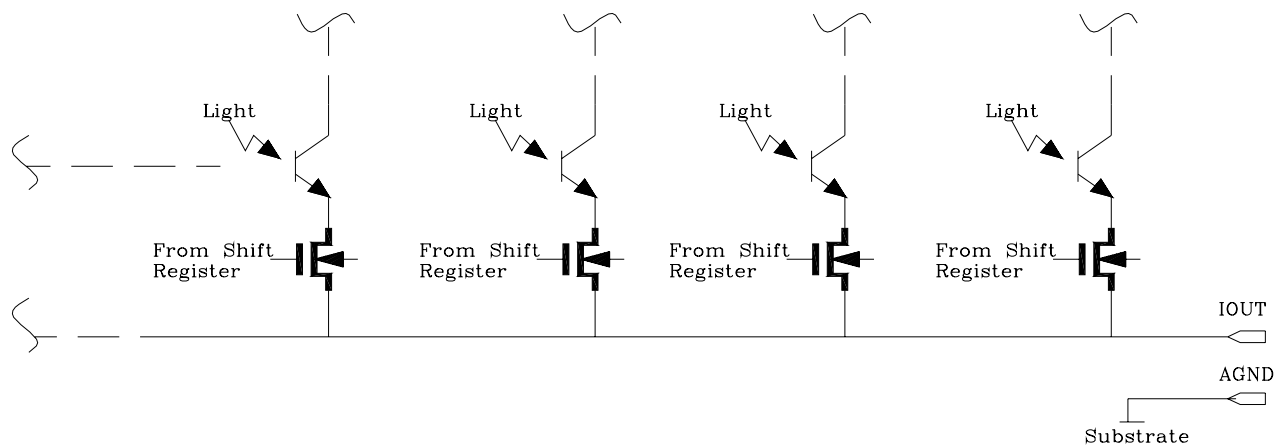
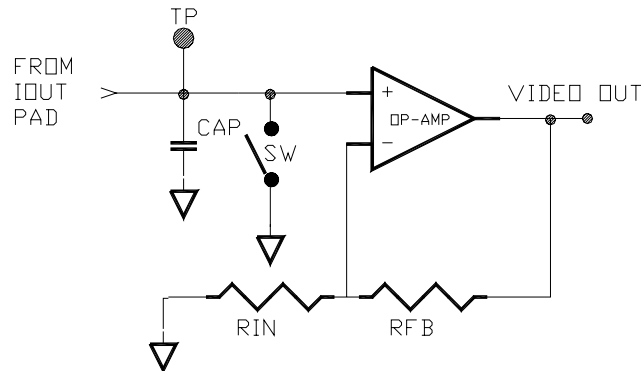
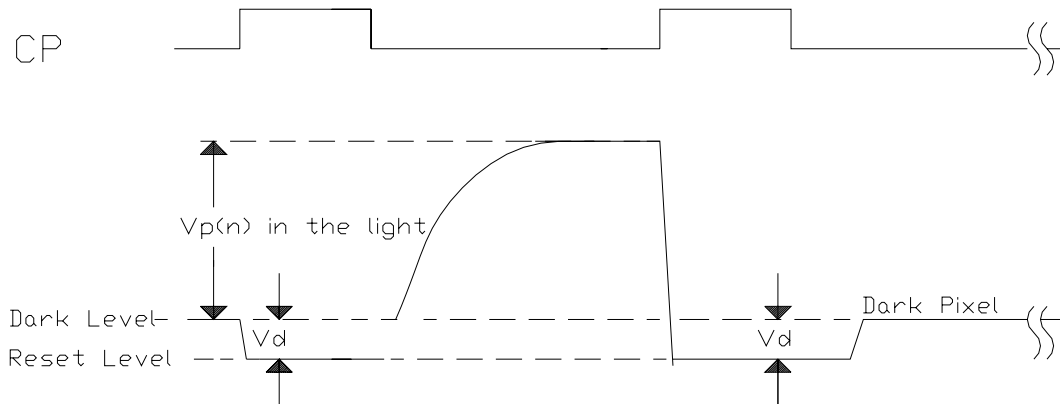
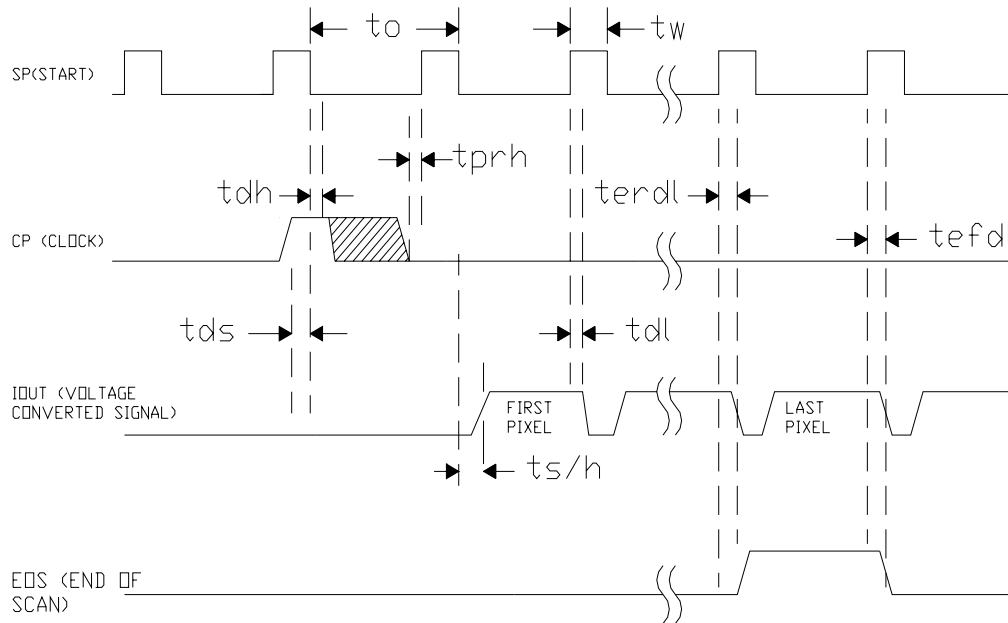

Figure 4. Video Pixel Output Structures
Figure 5. Video Output Test and Application Circuit
Figure 6. Single Pixel Video Output
Figure 8. Timing Diagram Of The PI3033B Sensor
Where  $V_p(n)$  is the amplitude of nth pixel in the sensor chip and  $N_{pixels}$  is the total number of pixels in sensor chip.  $V_{pavg}$  is converted from impulse current video pixel into a voltage output. See Figure 4, Video Pixel Output in section Output Circuit Of The Image Sensor and Figure 5, Video Output Test and Application Circuit in section Signal Conversion Circuit on page 6 and 7.
Exp = LP x Tint, where LP is light power (Yellow-Green) and Tint is as defined above. See Figure 6, Vpavg Output versus Light Exposure in section Video Output Response Under Exposure, on page 8.
The video signal from each photo-site is connected to a common video line on the sensor. Each photo-site is composed of a phototransistor with a series MOS switch connecting its emitter to a common video line. The video line is connected to the pad labeled IOUT. The photo-sensing element is the base of the phototransistor where it detects and converts the light energy to proportional charges and stores them in its base capacitance. When the MOS switch is activated, the emitter is connected to the video line and acts as source follower, producing an impulse current proportional to the stored charges in the base. This current is a discrete-time analog signal output called the video pixel. Accordingly the video pixel is proportional to the light energy impinging in the neighborhood of its photo-sites. Figure 4, Video Pixel Output Structures, show the output structure of four photo-sites out of 64. The multiplexing MOS switch in each photo-site terminates into the output pad, IOUT, through a common video line. The shift register sequentially accesses each photo-site by activating the MOS switch. As they are accessed, a sequence of video pixels is sent to the IOUT where they are processed with an external signal conversion circuit.
Figure 5, Video Output Test and Application Circuit shows a simply circuit that provides the cleanest technique in processing the video output. It integrates all the currents from each pixel element onto a capacitor, CAP. Then the CAP is reset to zero volts by activating the shunt switch, SW, and connecting the video line to ground prior to accessing the following pixel element. Simultaneous to SW activation, the pixel element storage is, also, reset to the dark level, hence initialized for the new pixel integration process. Since this process sums the switch edges and signal current pulses onto the CAP, it minimizes the switching patterns on the video pixels. The summed charges stored in the CAP, produces a pixel voltage with amplitude proportional to the charge from the current pulse. Since switching energies are high frequencies components, they tend to integrate to a 0 value and the remainder adds a constant value to the dark level. The signal pixels  $V_p(n)$  is referenced to the Dark Level as it is seen in Figure 6, Single Pixel Output Voltage that depicts the typical pixel waveform.
- (1) Applies to both CP and SP.
- (2) The output is a current that is proportional to the charges, which are integrated on the phototransistor's base via photon-to-electron conversion. For its conversion to voltage pixels see Figure 4, Video Pixel Output in section Output Circuit Of The Image Sensor.
- (3) Although the clock frequency, Fclk, will operate the device at less than 100KHz, it is recommended that the device be operated above 500KHz to avoid complication of leakage current build-up. In applications using long CIS module length, such as an array of image sensor > 27, increases the readout time, i.e., increases Tint, hence, leakage current build-up occurs.
- (4) The clock duty cycle typically is normally set to 25 %. However, it can operate with duty cycle as large as 50 %, which will allow more reset time at the expense of video pixel readout time.
The timing relationships of the video output voltage and its two input clocks the start pulse, SP, and the shift register clock, CP, along with the shift register EOS output clock are shown in Figure 8, Timing Diagram Of The PI3033B Sensor. The switch timing specification for the symbols on the timing diagram is given in Table 5, Timing Symbol's Definition below the timing diagram. The digital clocks' levels are +5 Volts CMOS compatible. The video, IOOUT, is specified in Figure 4, Video Pixel Output in section Output Circuit Of The Image Sensor.
The difference is in the arrangement of the two shunt switches, U2D, and U2A. U2D is a counterpart to SW in Figure 5. Video Output Test and Application Circuit. A DC restoration capacitor, C20, with value of 100pf added between the shunts switch. The first, U2D, clamps the video line to ground to reset the image sensors. Simultaneously the second, U2A, clamps the node between C20 and amplifier input to a output reference bias voltage that is on the node between R4 and R9. These resistors are voltage divider that sets the DC operating level of the amplifier's output by applying same bias voltage to both inputs of the amplifier